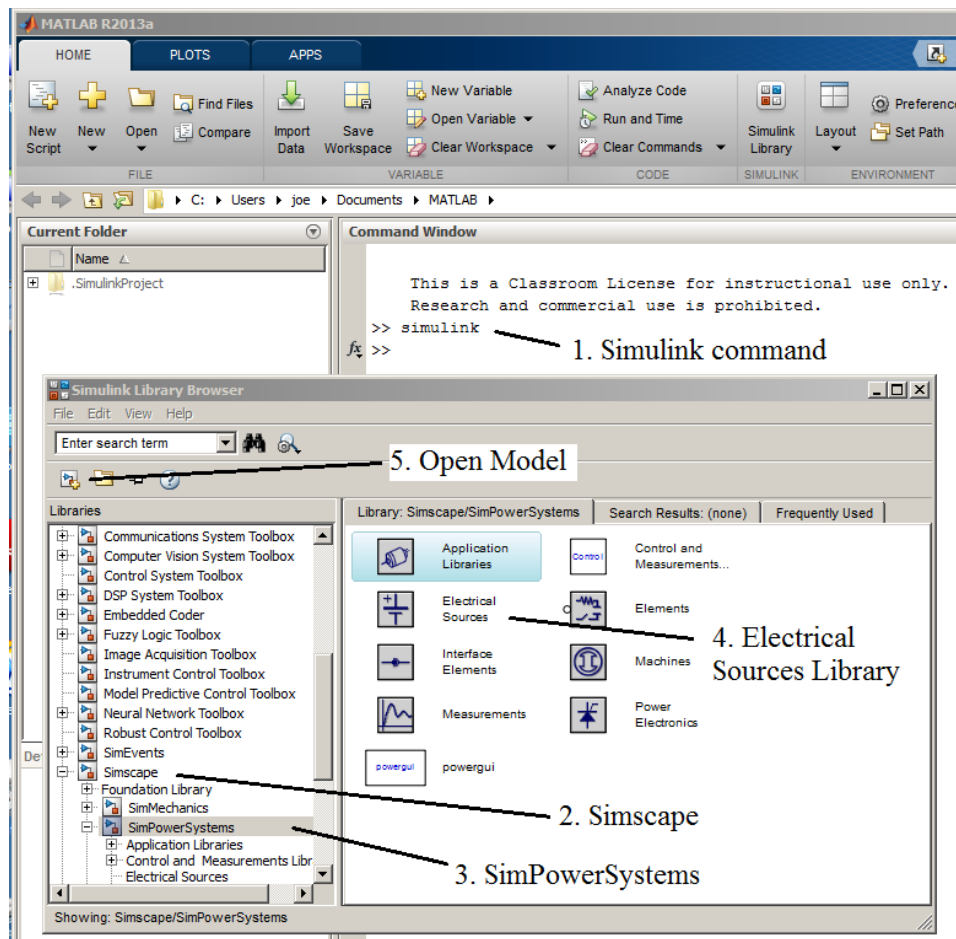
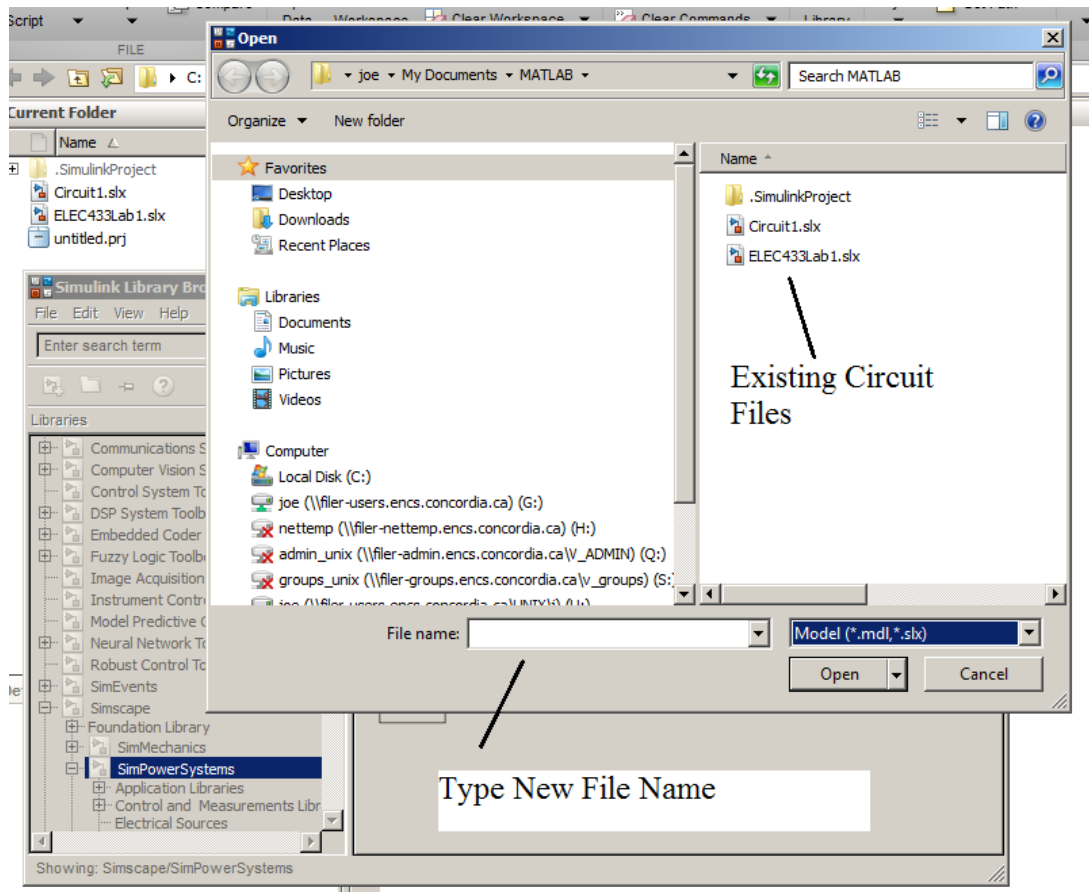

Figure 3. Opening SimPowerSystems in Matlab Version 2013.
Figure 4. The new-file creation window.
**Later Matlab Versions, 2012, 2013.** For the later versions of Matlab (2012 and 2013), the Matlab window will appear as shown in Fig.3. To open a file type **Simulink** in the command window after the >> prompt. Wait until the display changes, it may take some time to load.
When the Simulink panel appears, click on either **SimPowerSystems** or **Simscape** and then **SimPowerSystems** in the drop-down file menu that appears on the left. Item 1 of Fig. 4 is the Simulink command. The locations of the Simscape and SimPowerSystems files are shown in items 2 and 3. The library of power components will appear as shown in Fig. 3, item 4. These library groups will be opened and used to select the required circuit components. The next step is to create a panel that will contain the schematic of the circuit that you wish to simulate.
**Create A New Workspace.** To create a new workspace panel click on the **open new model** icon shown as item 5 in Fig. 3. Name the new circuit-drawing file before starting to build the schematic. The location of the commands is shown in Fig. 4. The new model will have either an .mdl or a .slx extension. If a schematic window opens immediately, use the **File. Save As** commands to start the new drawing. Take note of the location where the file is stored.
**Open An Existing Schematic.** Note that immediately to the right of the new-model icon, (item 5, Fig.3) there is a folder icon that is used to open an existing file. Clicking on this symbol will open a menu with previously opened schematics or projects. Note that the new-model window shown in Fig. 4 also will provide access to existing circuits. The existing circuit files shown in the upper right panel can be opened using the mouse.